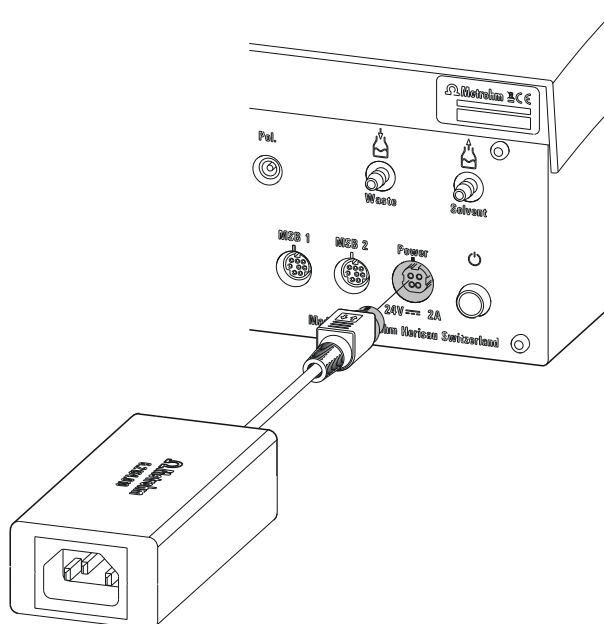

Figure 3 Connecting the power supply unit
- 1 Connect the plug of the external power supply unit with the power socket of the Ti-Touch (see figure 3, page 13).